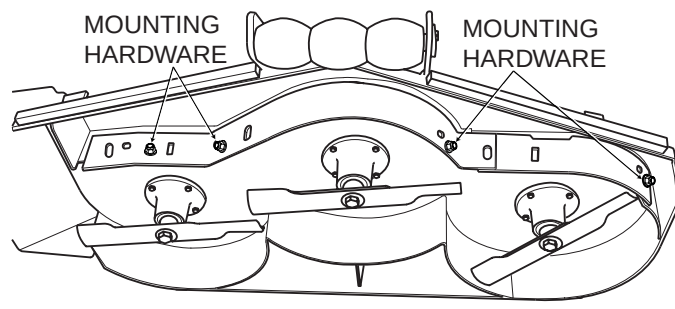

Figure 8. Custom Cut Baffle
1. Remove the hardware securing the Custom-Cut Baffle to the cutter deck (See Figure 8).